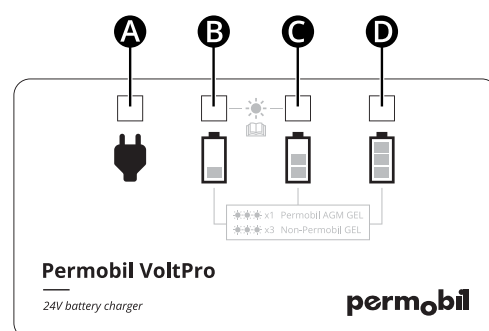

Figure 6. LED lights showing the battery levels.
- Note whether the LEDs flash once or three times. The LEDs **B**, **C**, and **D** will flash as soon as you connect the battery charger's power cable to a suitable power outlet, see figure 6.